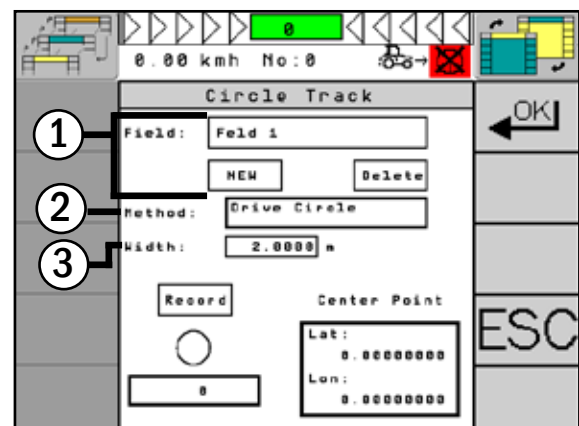

Fig. 137: Circle track mode setting
The settings under item 1 (see Fig. 137 – 1) can be found in Chapter 6.3.1.1.
Select the “Method” button (see Fig. 137 – 2) and define how the circles shall be laid out. You have the following options:
In addition, you must set the working width (see Fig. 137 – 3).